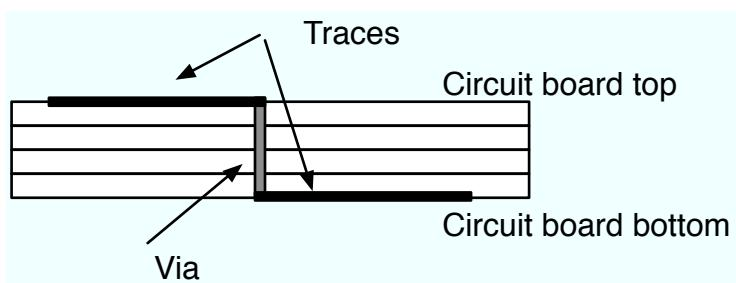

Figure 9.2: A PCB side view showing traces connection with a via
- Vias - One problem with traces on a printed circuit board is that they are purely two dimension. There is no way to jump a trace over another one. This presents a problem when there get to be a large number of traces—how do you connect up components where the traces need to jump over each other? The answer is with *vias*. Vias are small holes that have been drilled in the board. A small copper ring lines the hole, and runs through the board all the way to the other side. Vias allow traces to become three dimensional. A side view of a PCB showing traces and a via is shown in Figure 9.2.